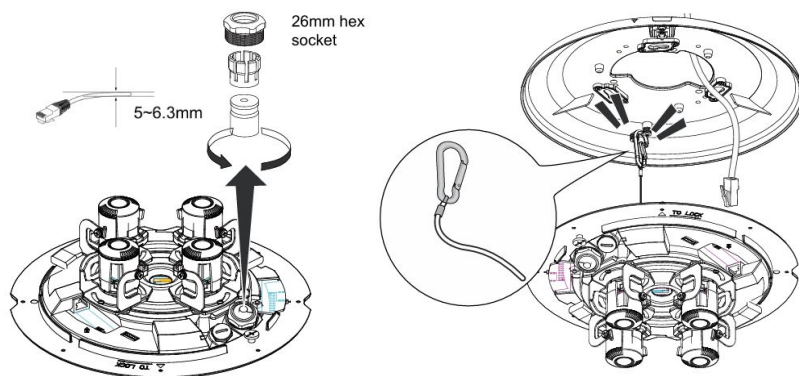

Figure 1-5
Step 5 Unscrew the 26mm hex plug and set aside. Latch the camera safety cable. See Figure 1-5. **Note:** The weather seal grommet is intended for cables of diameters between 5 to 6.3mm.